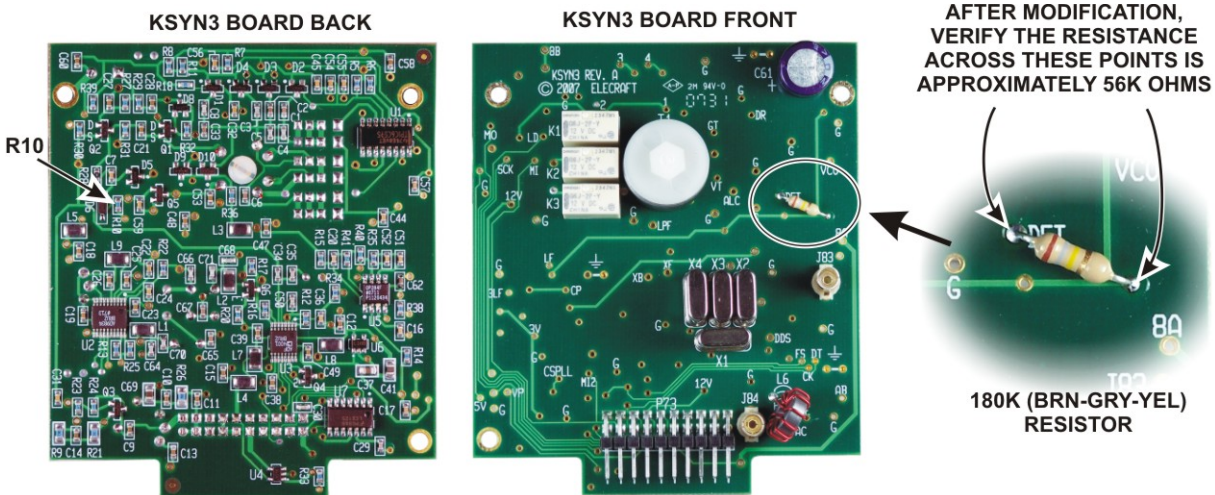

Figure 3. Modifying the KSYN3 Board.
You can check your K3 by removing the top cover and inspecting the KSYN3 board(s). If a fixed resistor as shown in Figure 3 is present, that KSYN3 board has been modified. If the resistor is not present, the KSYN3 board may have a 56 K SMD resistor installed at R10. Check the resistance across the solder pads where the leaded resistor would have been installed. If the resistance is near 56 K, this modification is not required. Boards that need to be modified will show a resistance near 82 K.
□ Modify each KSYN3 board as shown in Figure 3. Install the 180 K (first three colors: brn-gry-yel) leaded resistor on the front of the board as shown. This places the resistor in parallel with the existing 82 K R10. You can solder from the top of the board to avoid the possibility of creating an unwanted solder bridge. Confirm that you have properly completed the modification by checking the resistance as shown. The actual resistance reading you see may vary according to the tolerance of the resistors and your DMM.